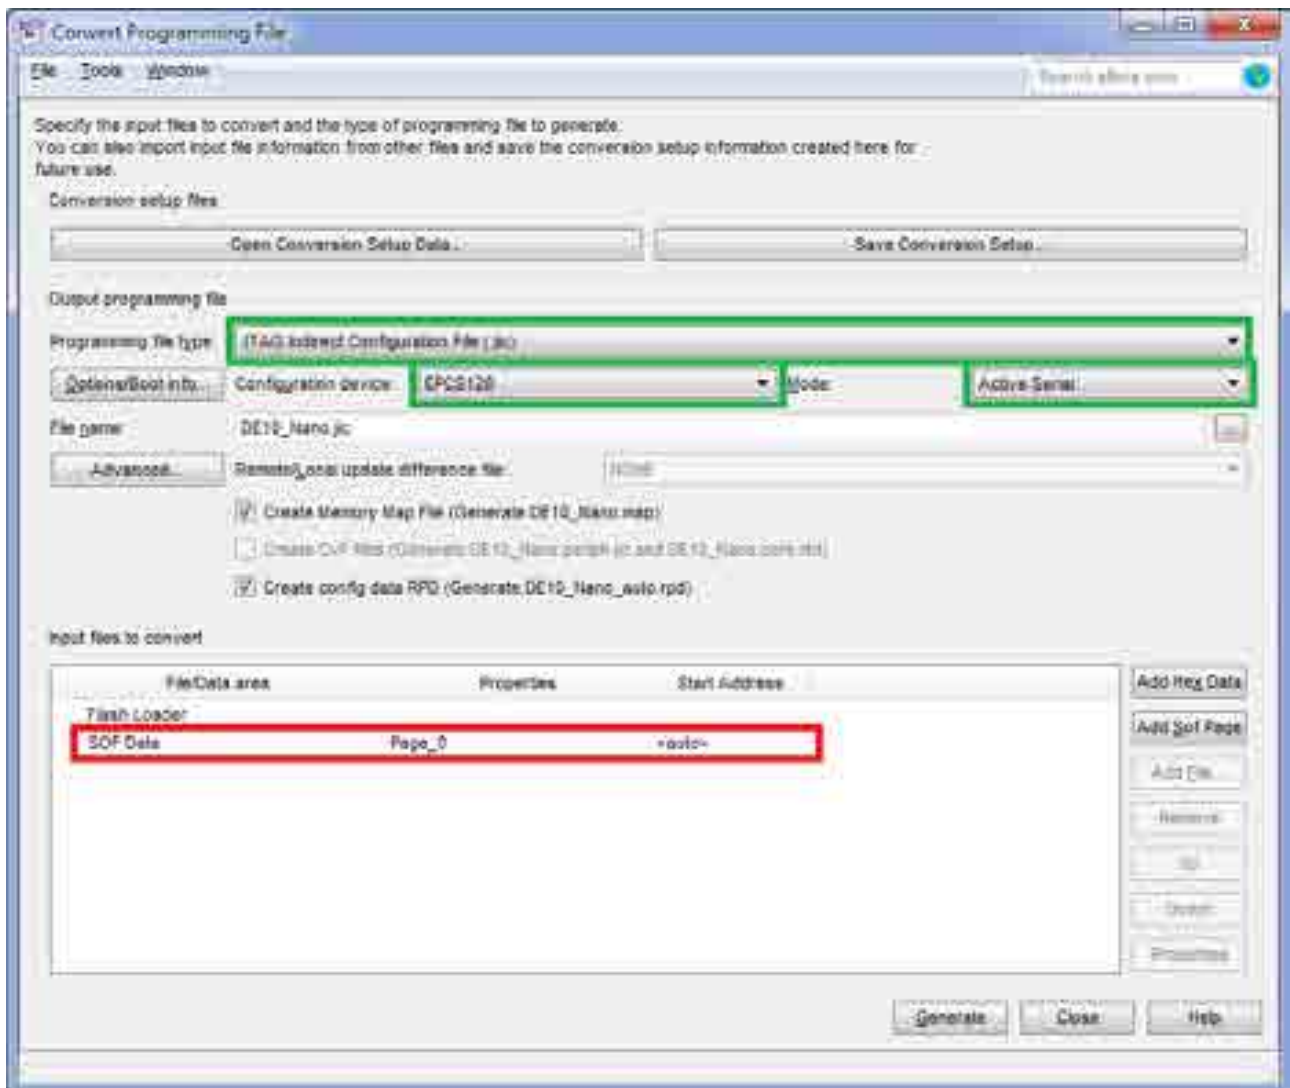

Figure 8-3
- Click on the SOF data in the section of Input files to convert, as shown in **Figure 8-3**.